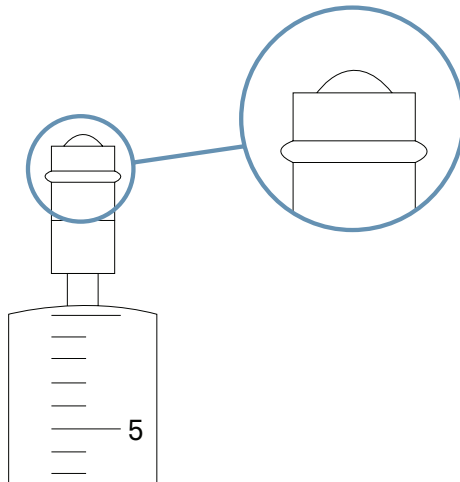

Figure 18 Build a meniscus
- Push the plunger of the syringe until a meniscus builds up on the tube piece (Figure 18).